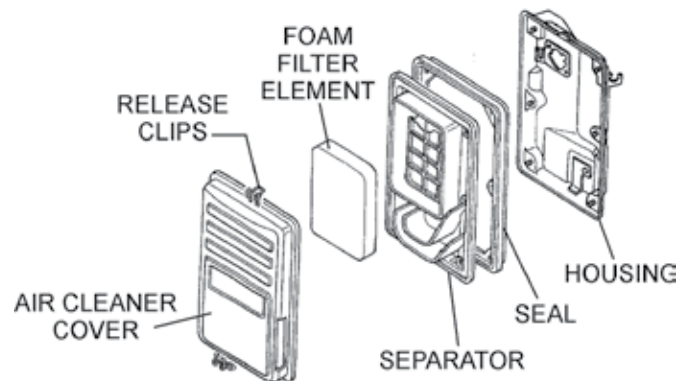

Figure 14. Engine Air Cleaner
1. Remove the air cleaner cover and foam filter element as shown in Figure 14.